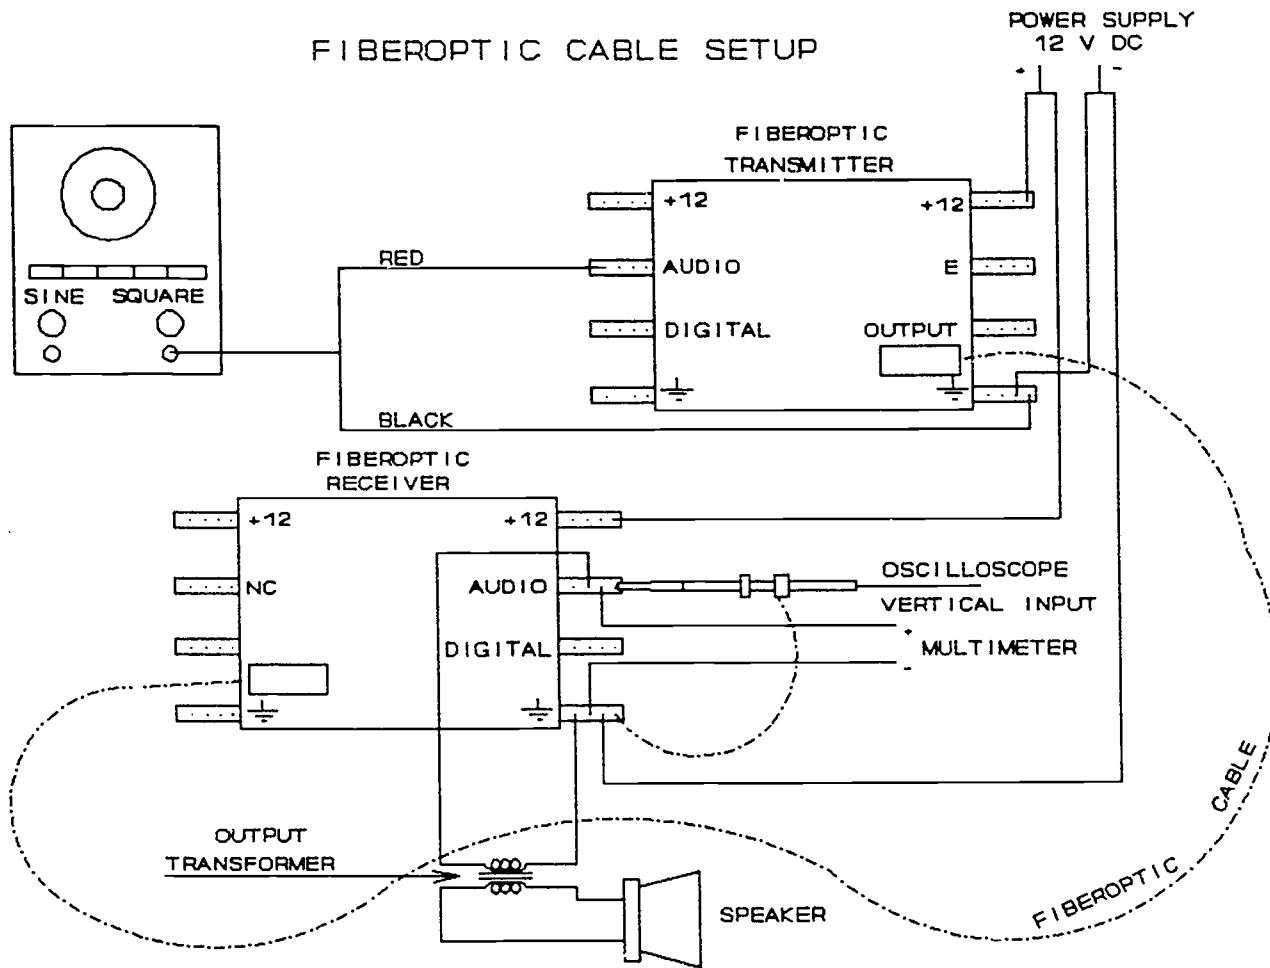

Figure G-6-3
- F. Plug a fiber optic receiver module into the bread board. Connect the fiber optic circuits as shown in Figure G-6-3 ("Fiber Optic Component Wiring Configuration"). Set the Bias and Gain controls on the receiver to their minimum positions (maximum counterclockwise position).
Note: If the frequency is not heard by 1000 Hz, check all connections as per the diagram in Figure G-6-3.
- D. Using the connections shown in Figure G-6-3, set the frequency of the signal generator and the Time/Div on the oscilloscope as indicated in the first row of Table G-6-1. Record the measured wavelength on the oscilloscope. This can be done by counting the number of time divisions and then multiplying by the Time/Div. Next, multiply the result by the speed of sound in the lab. (Refer to step B.)